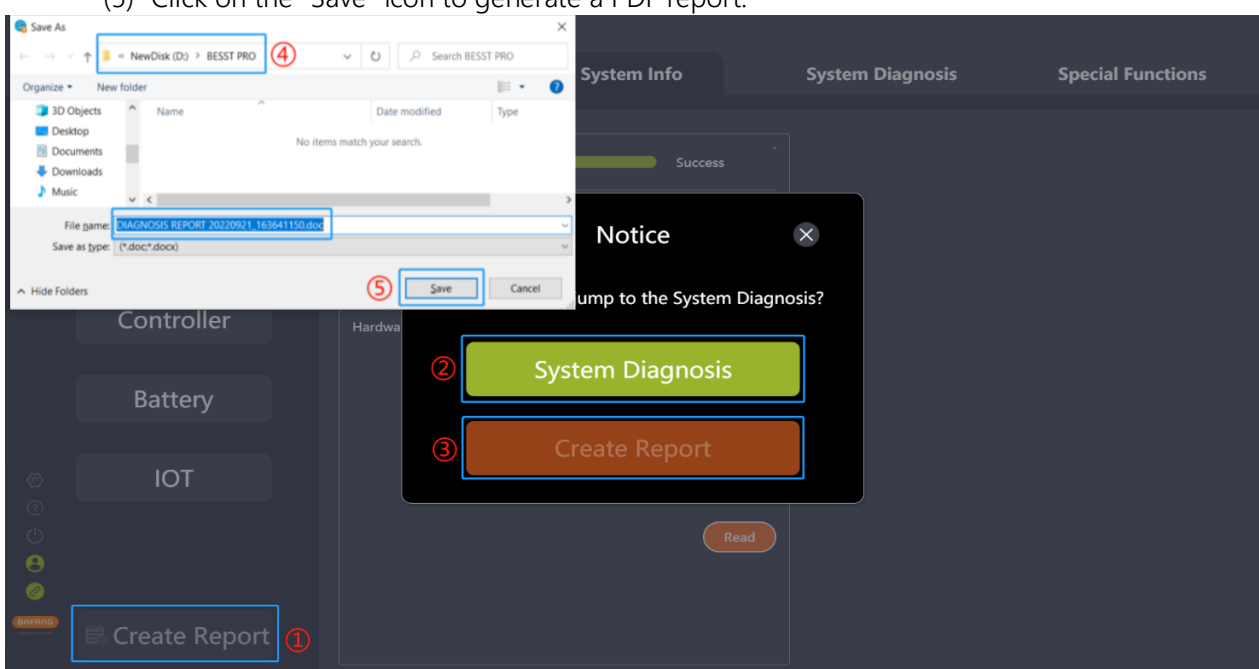

Fig. 7-9 Create report in system information interface
- (1) Click on the "Create Report" icon and a pop-up will prompt "Do you want to jump to the System Diagnosis?" (Fig.7-9).
- (2) For system diagnosis, select "System Diagnosis" to jump to the system diagnosis interface.
- (3) If not, click on the "Create Report" icon.
- (4) Select the local save path.
- (5) Click on the "Save" icon to generate a PDF report.